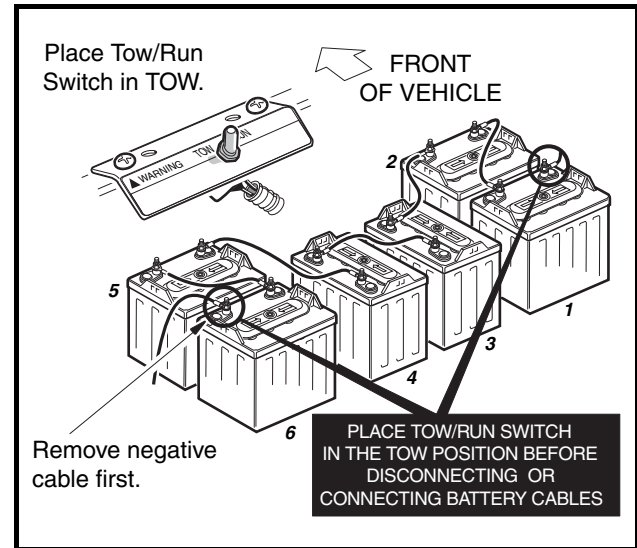
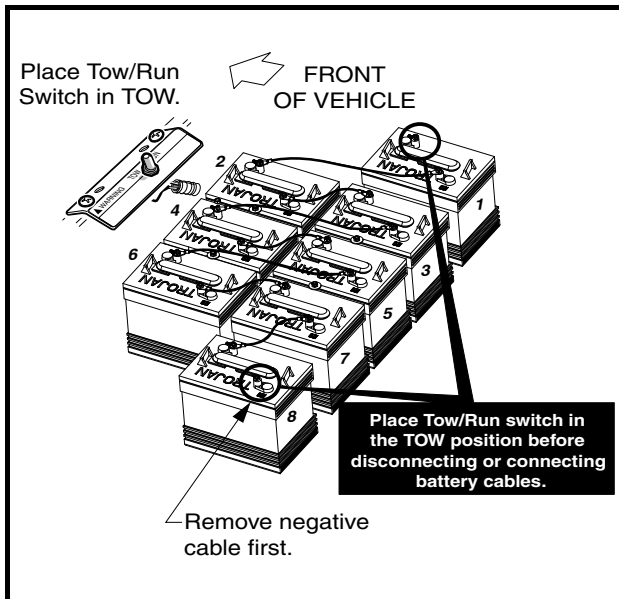
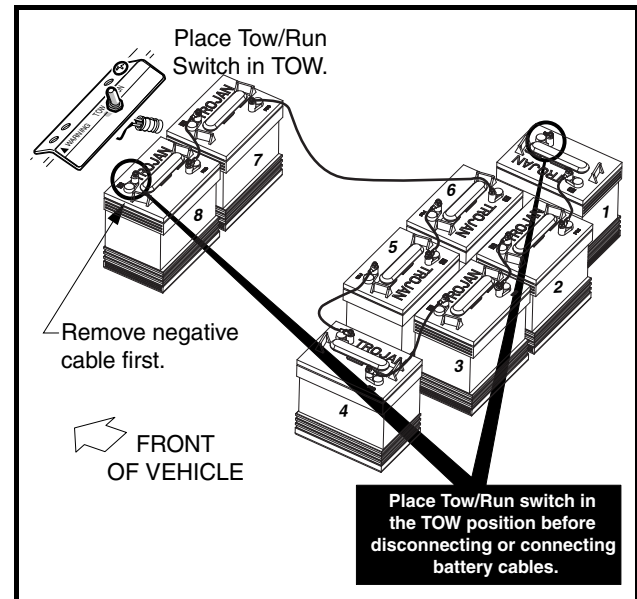

Figure 1-2 IQ System Vehicle
Figure 1-3 Turf 2/Carryall 2 IQ Plus Electric Vehicle and Carryall 6 Electric Vehicle (Style B)
Figure 1-4 Carryall 6 IQ Plus System Vehicle (Style A)
- To avoid unintentionally starting the vehicle, disconnect the batteries as shown (Figure 1-2, Page 1-4 or Figure 1-3, Page 1-4 or Figure 1-4, Page 1-4).
3. Disconnect the batteries, negative (–) cable first, as shown (**Figure 1-2**) through (**Figure 1-4**).